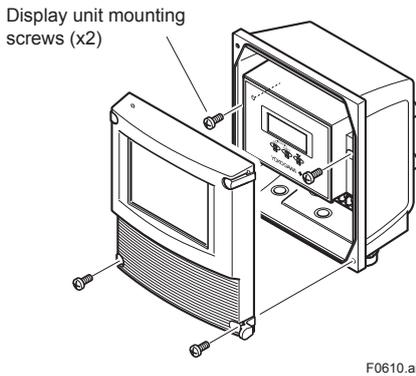

Figure 6.3.3 Removing the Front Cover and Mounting Screws of Display Unit for AXFA11 Remote Converter
- (1) Turn off the power.
- (2) While supporting the front of the cover with your hand, flip the connecting screw protective cover over, and remove the four connecting screws.
- (3) Loosen the amplifier assembly’s two screws while supporting it with your hand (See Figure 6.3.3).